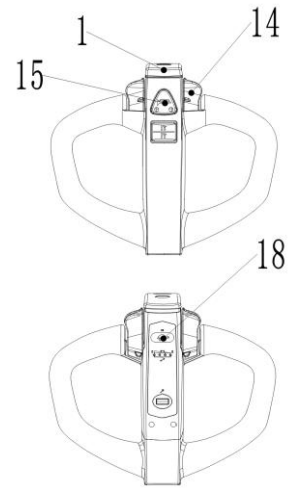

Fig.7: Control handle
Press the horn button (Fig.7,15) to activate the audible warning signal.
Control the travel speed by turning the accelerator (Fig.7,14) carefully until the truck reaches your desired speed.
Press the turtle button (Fig.7,18) to enter into slow travel mode, travel slowly by turning the accelerator in the desired direction. Press the turtle button again to resume travelling at normal speed.
- By setting the accelerator (Fig. 7, 14) to the neutral "0" position or by releasing the accelerator, the regenerative brake is activated. The truck brakes to a halt.
- By turning the accelerator (Fig. 7, 14) in the opposite direction, the regenerative brake is activated. The truck brakes and begins traveling in the opposite direction.
- Operate the collision safety switch (belly button) (Fig. 7, 1) to protect the operator from being crushed. If this switch is activated, the truck brakes and travels a short distance in the opposite direction.